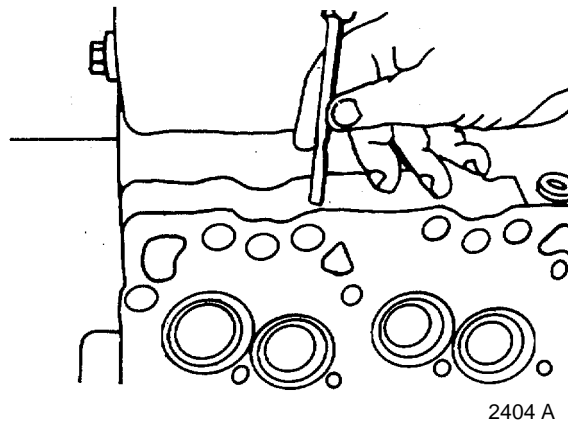

FIGURE 4-24. Marking Re-ground Valve Seats.
- (12) Mark the cylinder head to identify the re-ground valve seats (FIGURE 4-24).
d. Measure the valve lobes and lift pump lobe with micrometer. Refer to FIGURE 4-24 and Table 4-4.